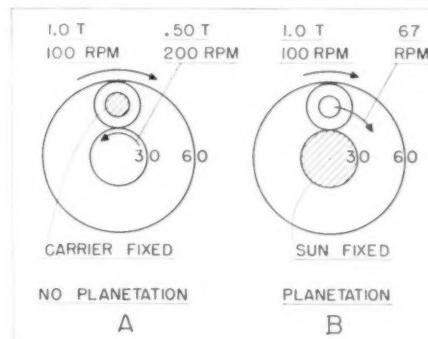

Fig. 11 A simple planetary gearset
Fig. 11(A) shows a planetary set with ring input, sun-gear output, and the carrier held stationary. With an input of one unit of torque at 100 rpm we have an input horsepower of $1 \times 100 = 100$ percent. Since the relative speed of the ring and carrier is 100 rpm, the horsepower at the ring gear mesh is also $1 \times 100 = 100$ percent of input.
In Fig. 11(B) the sun gear is held stationary instead of the carrier. The input torque is again 1.0 at 100 rpm, but the carrier turns at 67 rpm instead of standing still. The relative speed of the (Continued on page 335)
In a planetary transmission having two or more planetary sets compounded, the two sets can be calculated as in Fig. 11. With two or more planetary sets coupled in differential relationship, the sun, ring and planet carrier of one set all rotate at different speeds. This requires tracing the torque paths in order to determine the torque and relative speeds for each set.